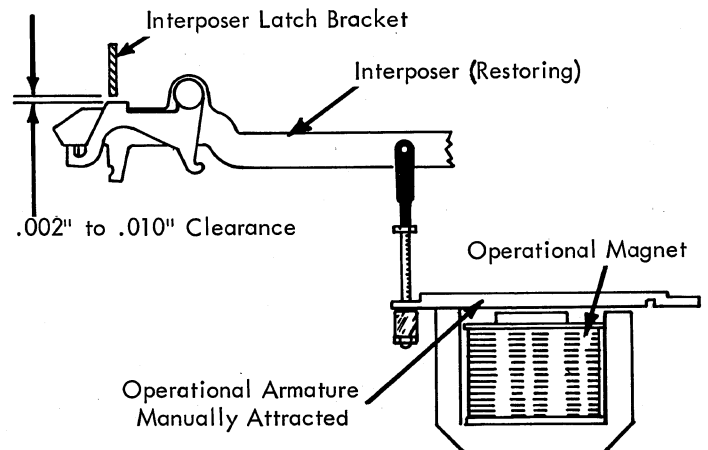

FIGURE 128.5 Check, Trip Link
4. Pull Link (Fig. 128.5) - Adjust the operational pull links so that a .002" to .010" clearance exists between the interposer latch bracket and the interposer latch at the point of relatching.